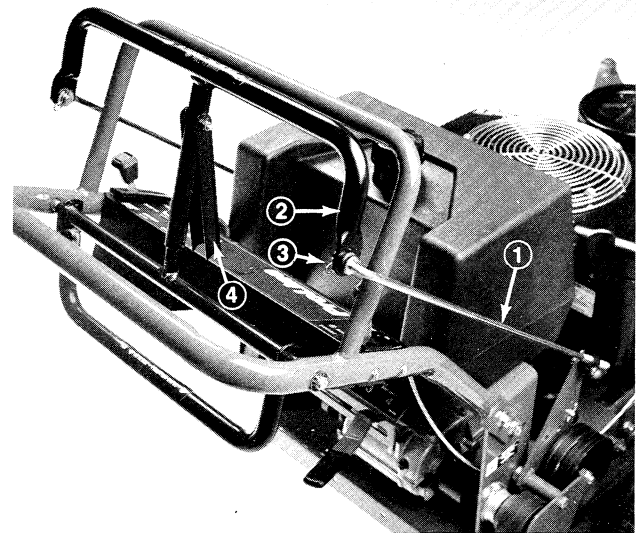

Figure 11
3. Check gap between control bar and upper handle when fully engaging wheel belts. Gap should be approximately 1 to 1-1/4" (Fig. 11).
5. Brake rods should be adjusted so parking brake lever can be swung into a snug position against the upper handle while pulling back on upper control bar (Fig. 11).